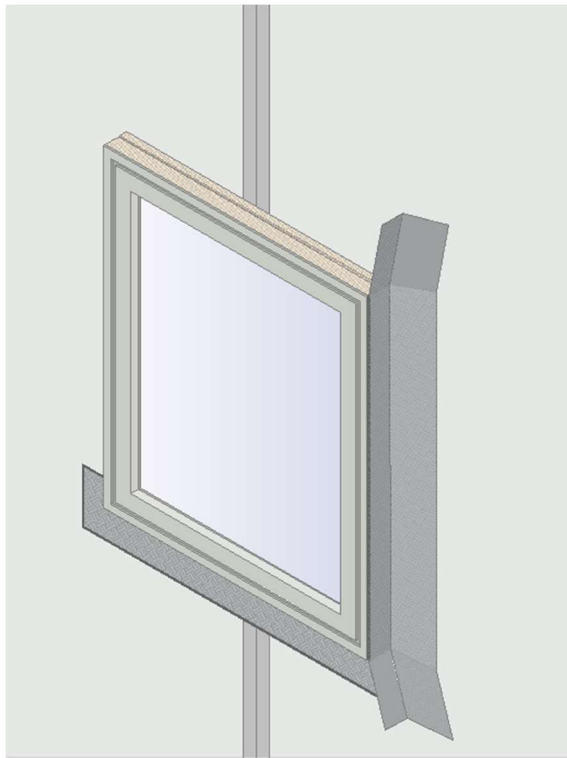

Figure 11
- Push and fold the remainder of the membrane into the junction of the frame and substrate making a 90° angle (Figure 11).